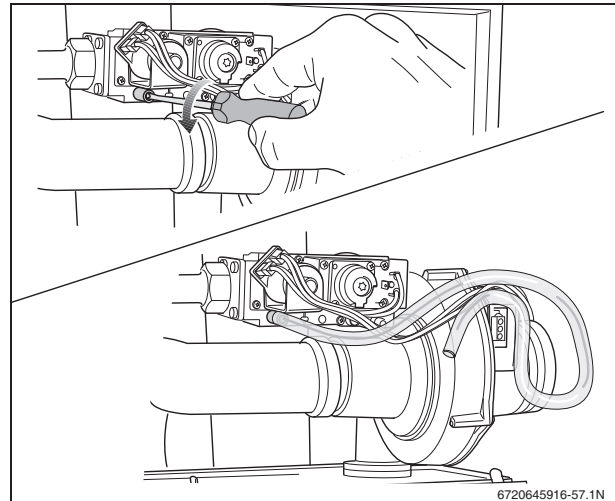

Fig. 57 Bleeding the gas flow pipe
- Open the screw plug on the testing nipple of the gas supply pressure and for purging (fig. 57, [1]) by 2 turns and install a hose.